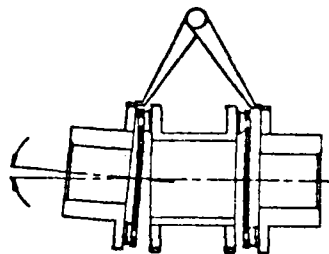

Figure 3
2. Use calipers to check the gap between hubs as shown in Figure 3. Gap should be the same at all points around the hub and should equal dimension shown on the table on the reverse side of this sheet.